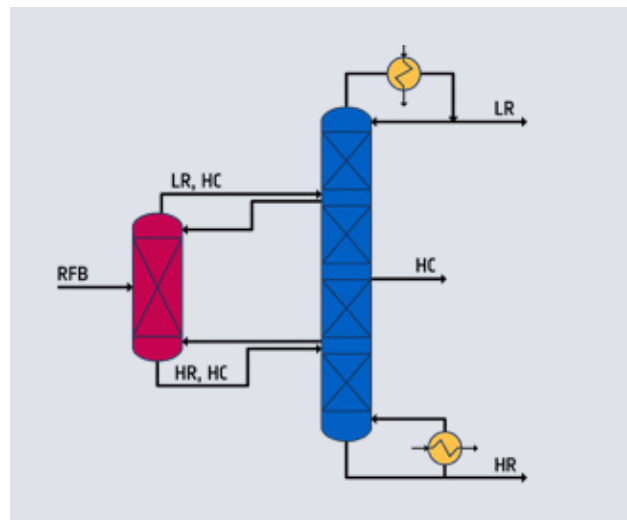

Fig. 5: PETLYUK sequence: pre-fractionation and product distillation with side draw-off
- Vernier adjustment and optimization of the process simulation of the PETLYUK sequence as per Fig. 5 (Chart 3)